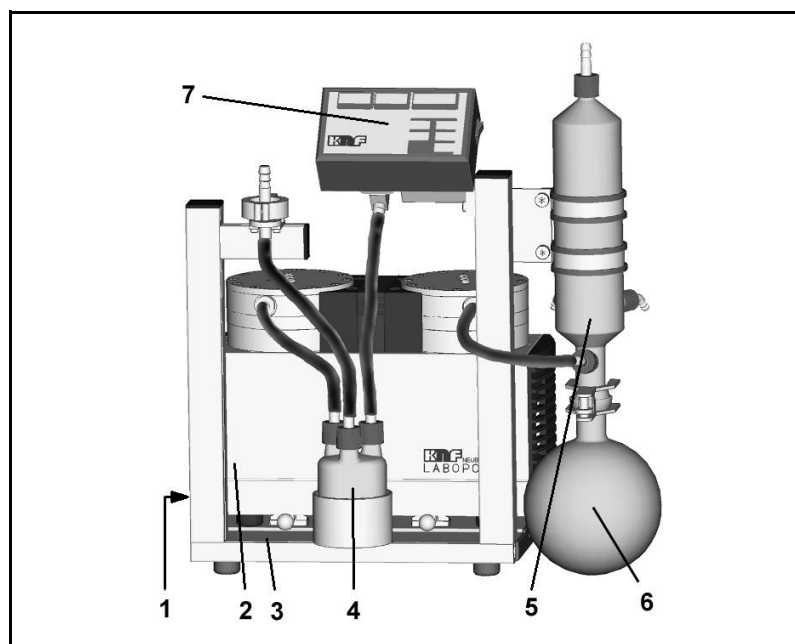

Fig. 6: Description LABOBASE Systems SBC 840, SBC 840.40, SBC 844 and SBC 844.40
- The system is supplied with complete tubing (see fig. 6, page 17).